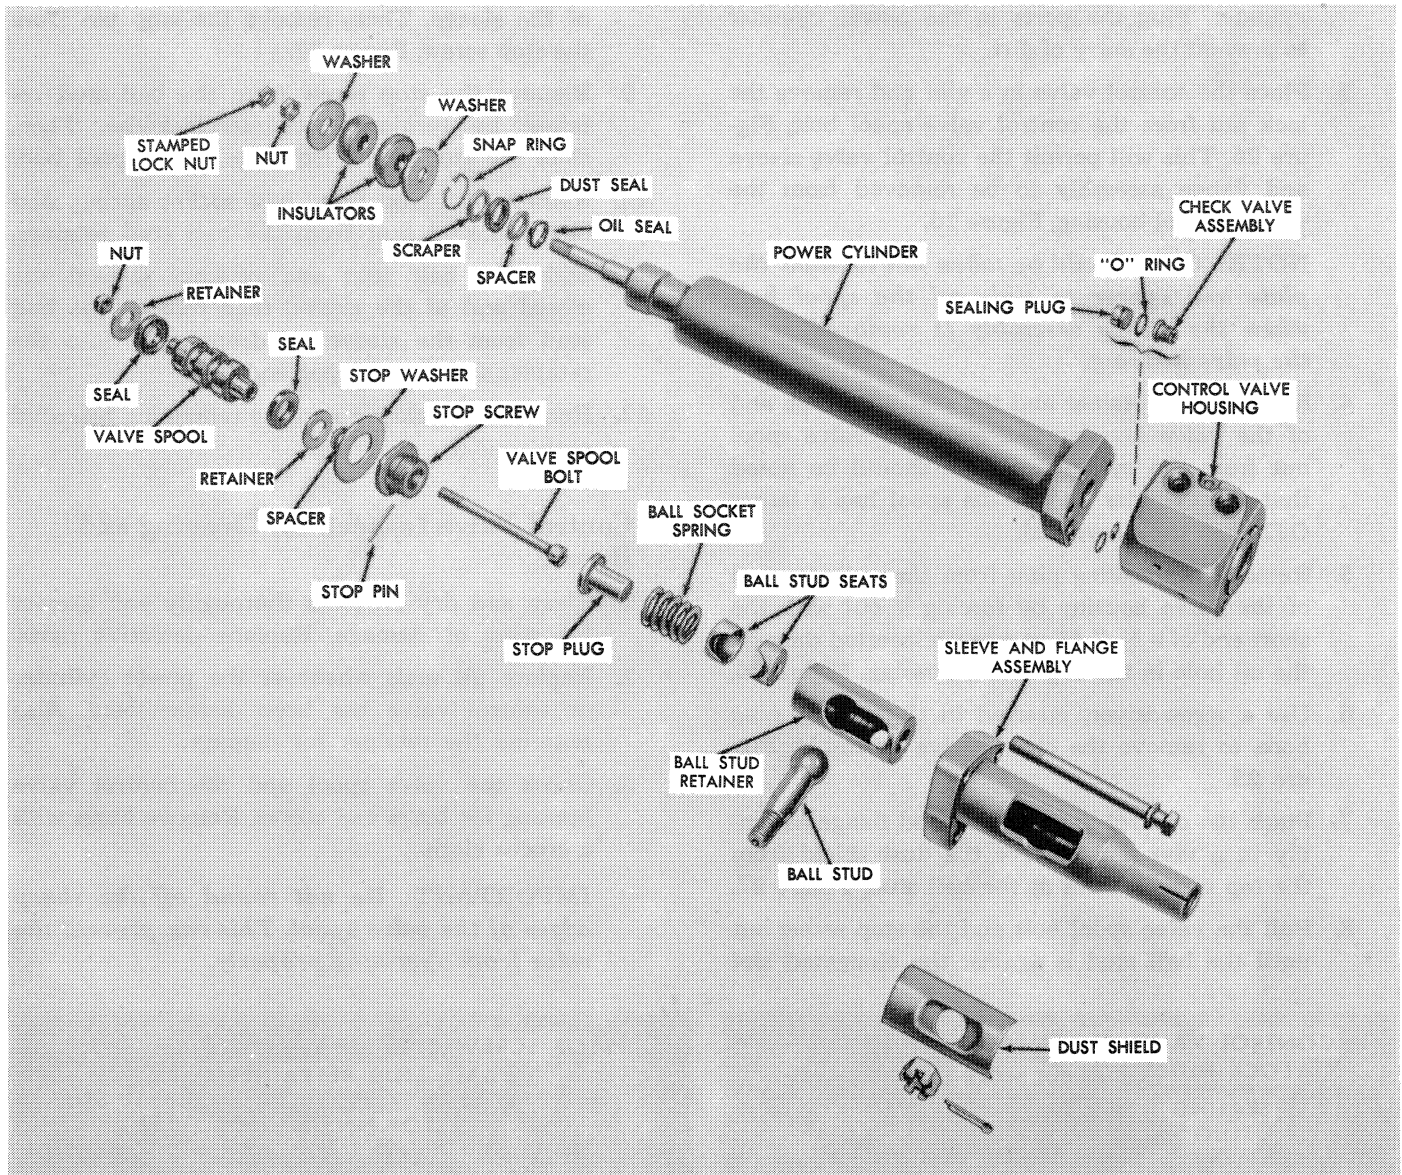

Figure 25—Control Valve and Power Cylinder—Disassembled
6. Use a screwdriver, inserted in the sealing plug bore, to remove the check valve assembly, Figure 25.
5. Position the remaining half of the ball stud seat in the retainer, followed by the spring and stop plug with head of plug toward the open end of tubes, as shown in Figure 25.
2. Remove the snap ring, Figure 25, from the rod end of the cylinder.
3. Pull the piston rod outward to remove the scraper and the dust seal, Figure 25.